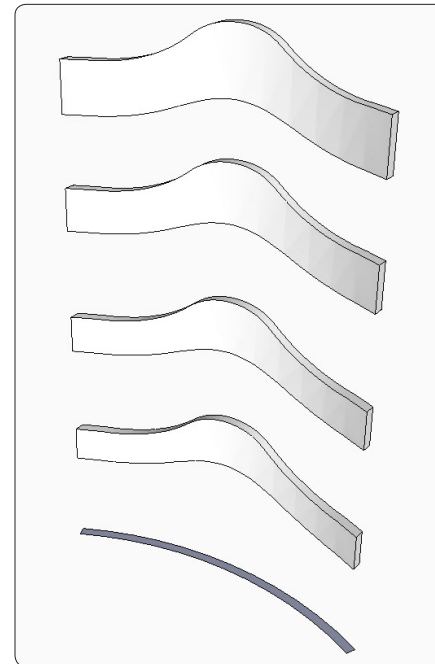

Figure 35. Clean up the remaining waste to expose the finished slats.
Step 4 Use the Eraser Tool to clean up the remaining waste, yielding the final back slats, as shown in Figure 35.